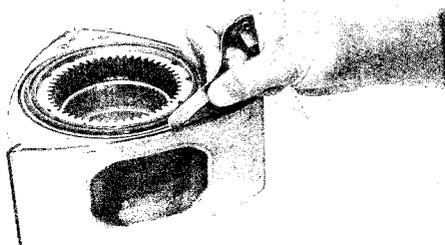

Fig. 1-47 Checking side seal clearance
3. Check the clearance between the side seal and the groove with a feeler gauge, as shown in Fig. 1-47. The standard clearance is **0.03 ~ 0.07 mm (0.0012 ~ 0.0028 in)**. If the clearance exceeds **0.10 mm (0.0040 in)**, replace the side seal.